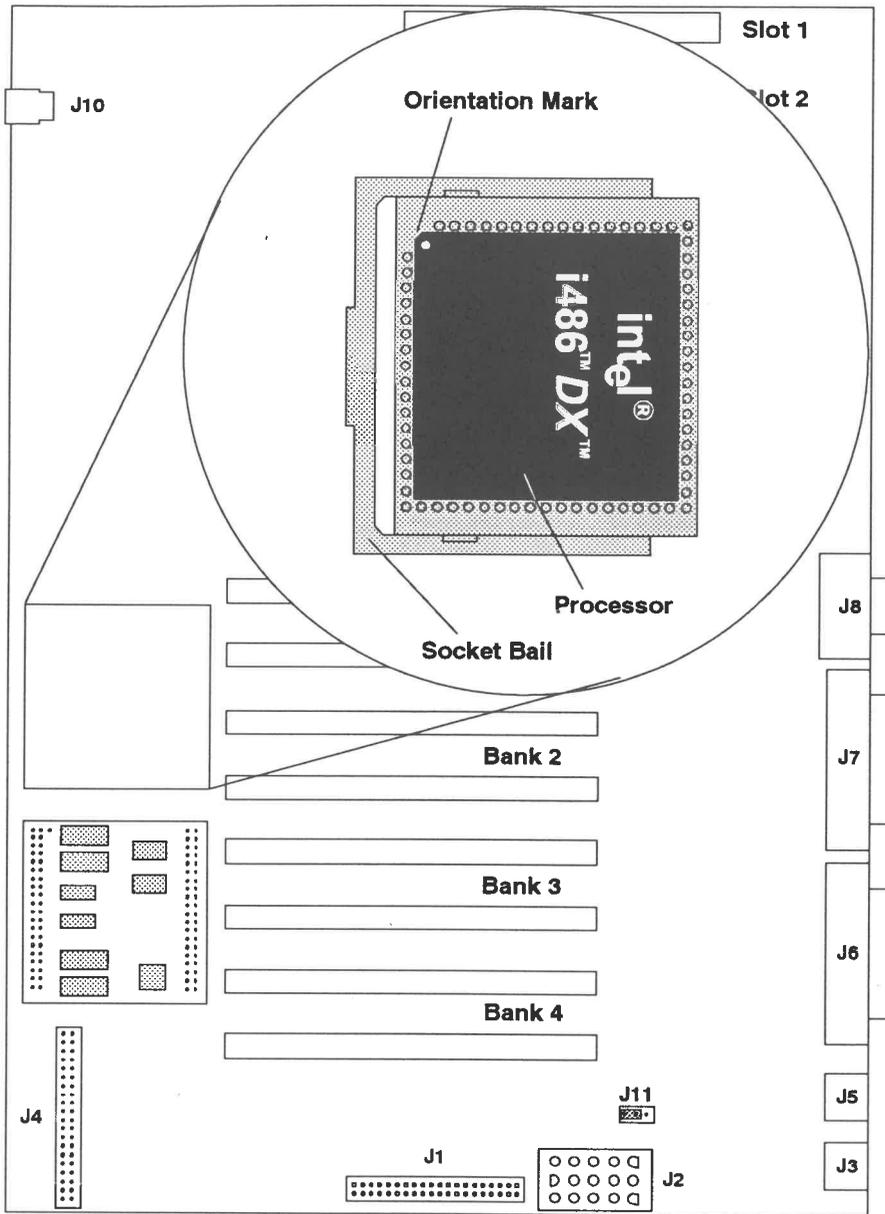

Figure 3-3 Intel OverDrive Socket Location
The location of the Intel OverDrive socket is shown in Figure 3-3.
6. Referring to Figure 3-3, properly orient the processor to the Intel OverDrive socket.